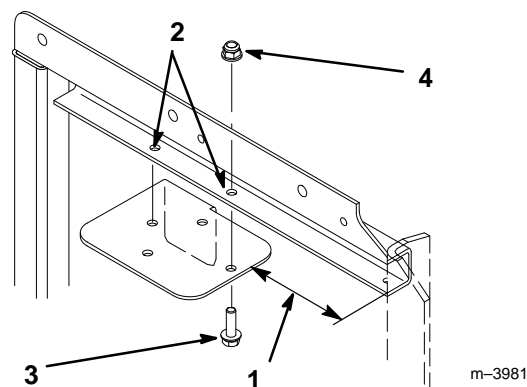

Figure 3
1. Measure back 6-1/2" (165 mm) from left frame upright to front of plate. Center filter plate holes on flange width and clamp plate in position (Fig. 3).
2. Using filter plate as a guide, drill (2) 11/32" (9 mm) mounting holes through bottom flange of left side engine frame (Fig. 3).
3. Secure filter plate to bottom flange of engine frame with (2) 5/16-18 x 1" (26 mm) bolts and (2) 5/16-18 flange locknuts (Fig. 3).